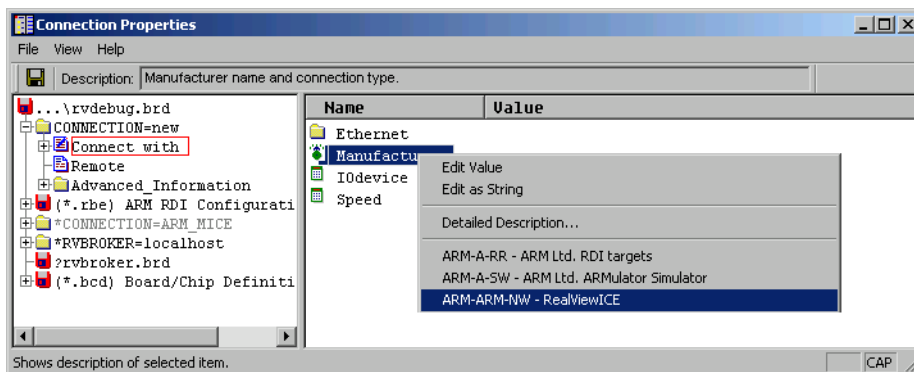

Figure B-14 Setting how to connect
7. Right-click on the Manufacturer setting, and choose **ARM-ARM-NW - RealViewICE** from the context menu that appears, as shown in Figure B-14 on page B-16.